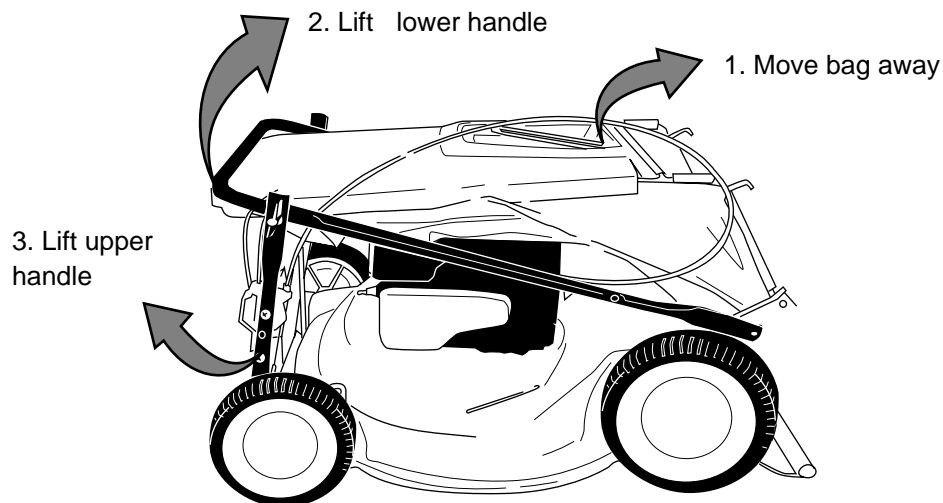

FIGURE 4
NOTE: If your mower is equipped with a hardtop grass bag which is packed on top of the mower in the carton, remove the grass bag from the unit and set it out of the way now. See Figure 4 (step 1). If your mower is equipped with a soft top grass bag or a hard top bag which is packed unassembled in the carton, please follow the instructions given later in this section to assemble the grass bag.
- Raise the lower handle in the direction shown in Figure 4 (step 2) till it snaps into place.
- Raise the upper handle in the direction shown in Figure 4 (step 3). Tighten the wing nuts which are already on the handle. See Figure 5A.